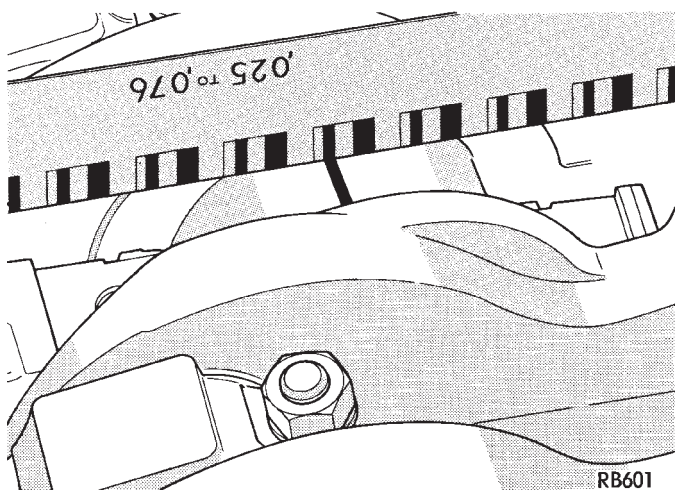

Fig. 13 Checking Connecting Rod Bearing Clearance
(1) Follow the procedures outlined in the Standard Service Procedures Section for Measuring Main Bearing and Connecting Rod Bearing Clearances. (Fig. 13). Refer to (Fig. 15) for specifications.
(2) Tighten nuts to 52 N·m (38 ft. lbs.).
(3) Remove connecting rod cap and measure Plastigage (Fig. 13).